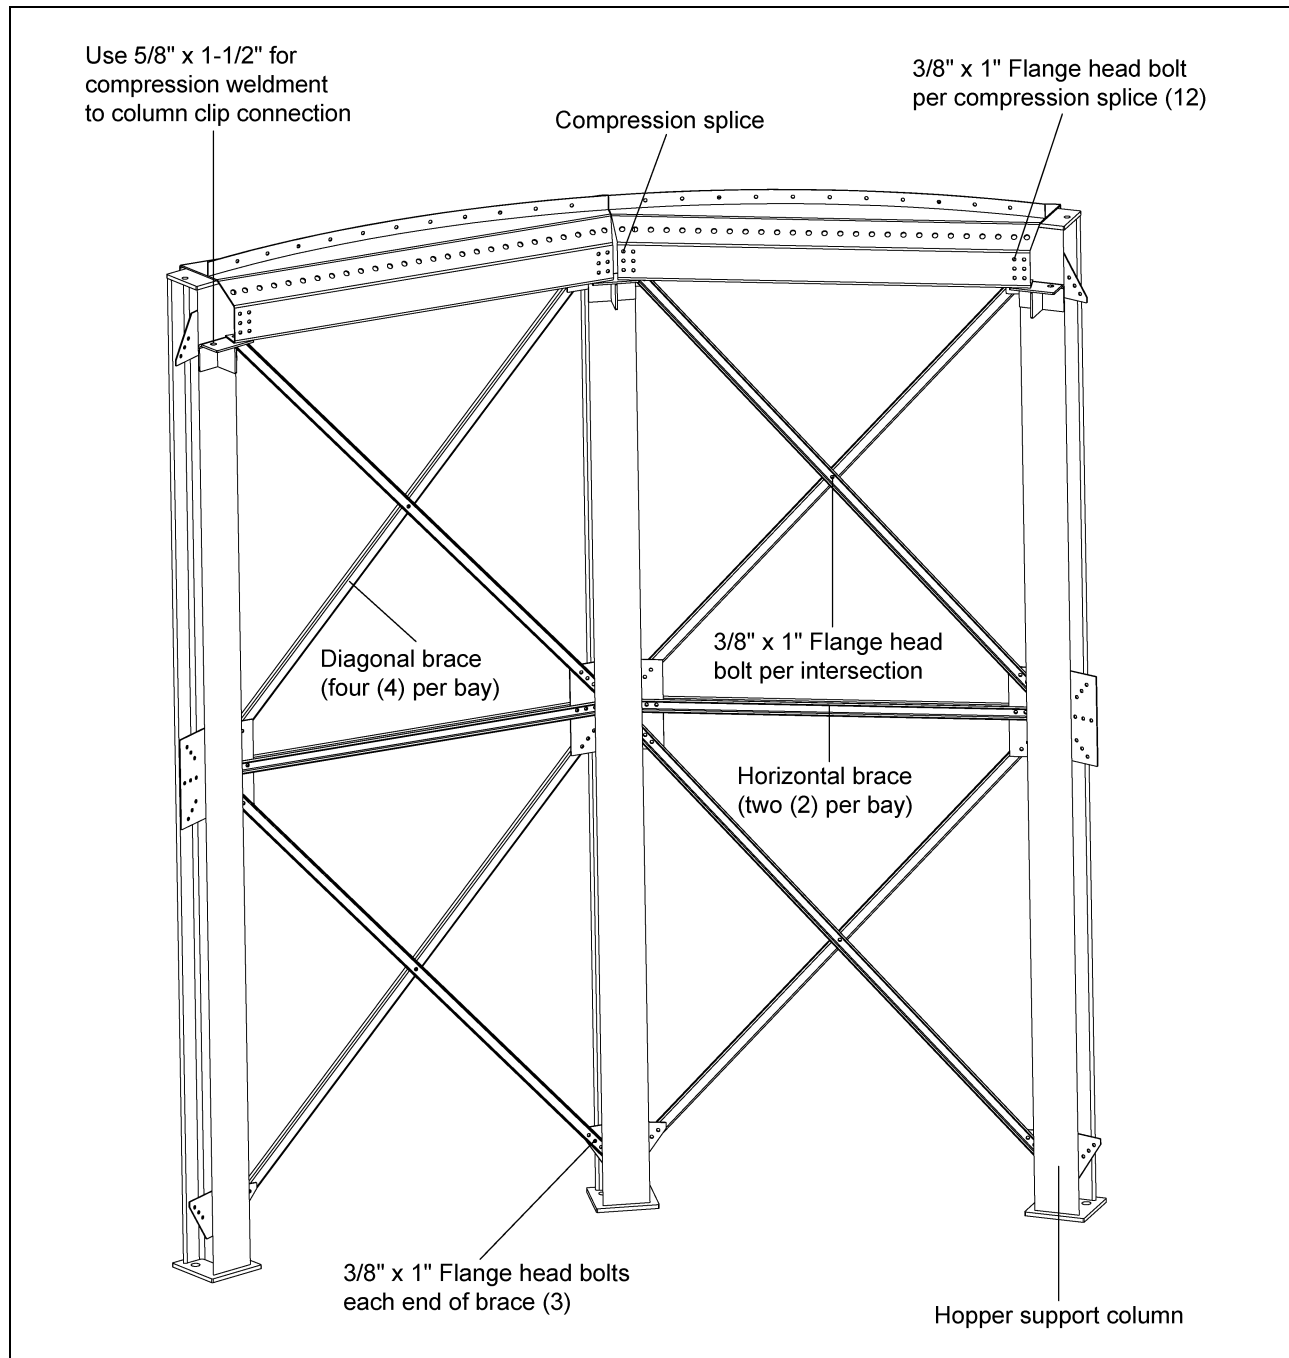

Figure 6B
Connect hopper support column bracing as depicted in Figure 6B. Use $\frac{3}{8}$ " x 1" hex flange head bolts for all bracing connections. The horizontal brace consist of two (2) formed channels placed back to back. Connect diagonal braces at their intersection with one $\frac{3}{8}$ " x 1" hex flange head bolt. The compression elements can be placed on the top of the column while the bracing is being installed. To ease construction pre-install a compression splice on the end of each compression element ($\frac{3}{8}$ " x 1" hex flange head bolts). Compression elements are connected to column supports clips with a $\frac{5}{8}$ " x 1- $\frac{1}{2}$ " hex bolt at each end. The compression element can be connected to column top plate at this time for alignment, however this bolt will have to be removed before the tank is set on the hopper support structure. Connect adjacent compression elements with compression splices.